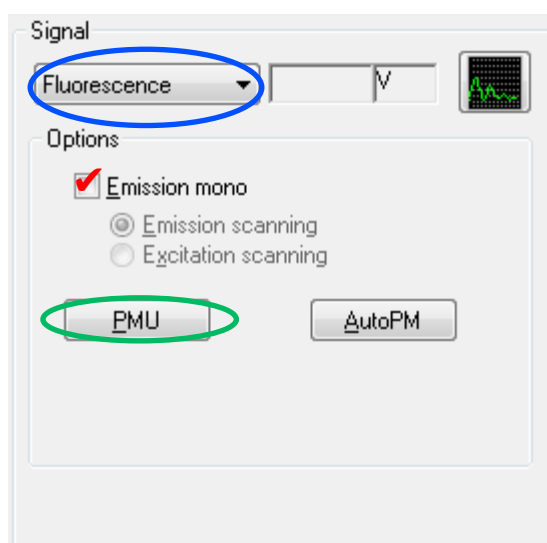

Figure 1. The “Signal” panel for fluorescence mode.
- Tick the “Emission Mono” box as shown in Figure 1